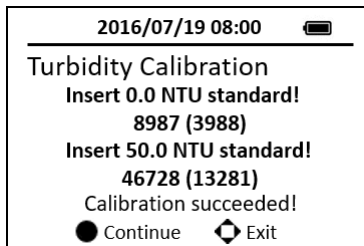

Figure 14. Turbidity Calibration-2
8. Press the **OK** key to continue high range turbidity calibration. If high range turbidity calibration not required, press any keys to exit. (Figure 14)